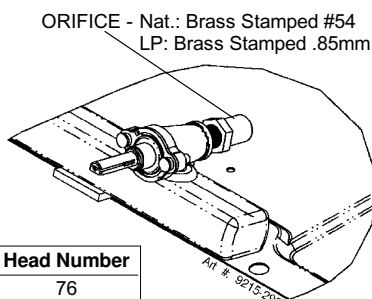
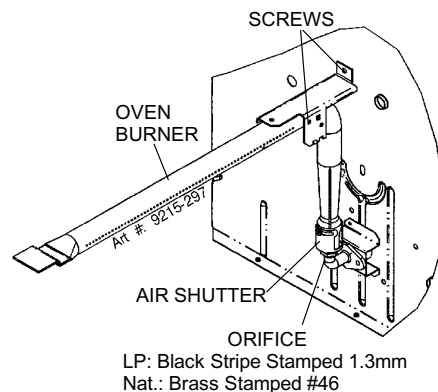

FIGURE 3
FIGURE 4
- Adjust top burners (see figure 3).
- Remove all (4) surface burners.
- Remove all (4) orifice hoods from the valve by using a 1/2" wrench or socket and turning the hood counter-clockwise.
- Replace with the brass colored hoods stamped .85 mm by using a 1/2" wrench or socket and turning the hood clockwise approximately (6) complete turns.
- Adjust oven burner (see figure 4).
- Remove the oven burner by removing the screw from the pilot bracket and the oven burner bracket (see figure 4). Use caution in removing pilot bracket.
- Replace with orifice hood with a black stripe stamped 1.3 mm using a 1/2" wrench or socket and turning the hood clockwise approximately (6) complete turns.
- Replace with the brass colored hoods stamped .54 by using a 1/2" wrench or socket and turning the hood clockwise approximately (6) complete turns.
- Close the air shutters on the burners so that 1/4" of the square hole is covered (see figure 4).
- Remove the oven burner by removing the screw from the pilot bracket and the oven burner bracket (see figure 4).
- Replace with orifice hood with a brass hood stamped #46 using a 1/2" wrench or socket and turning the hood clockwise approximately (6) complete turns.